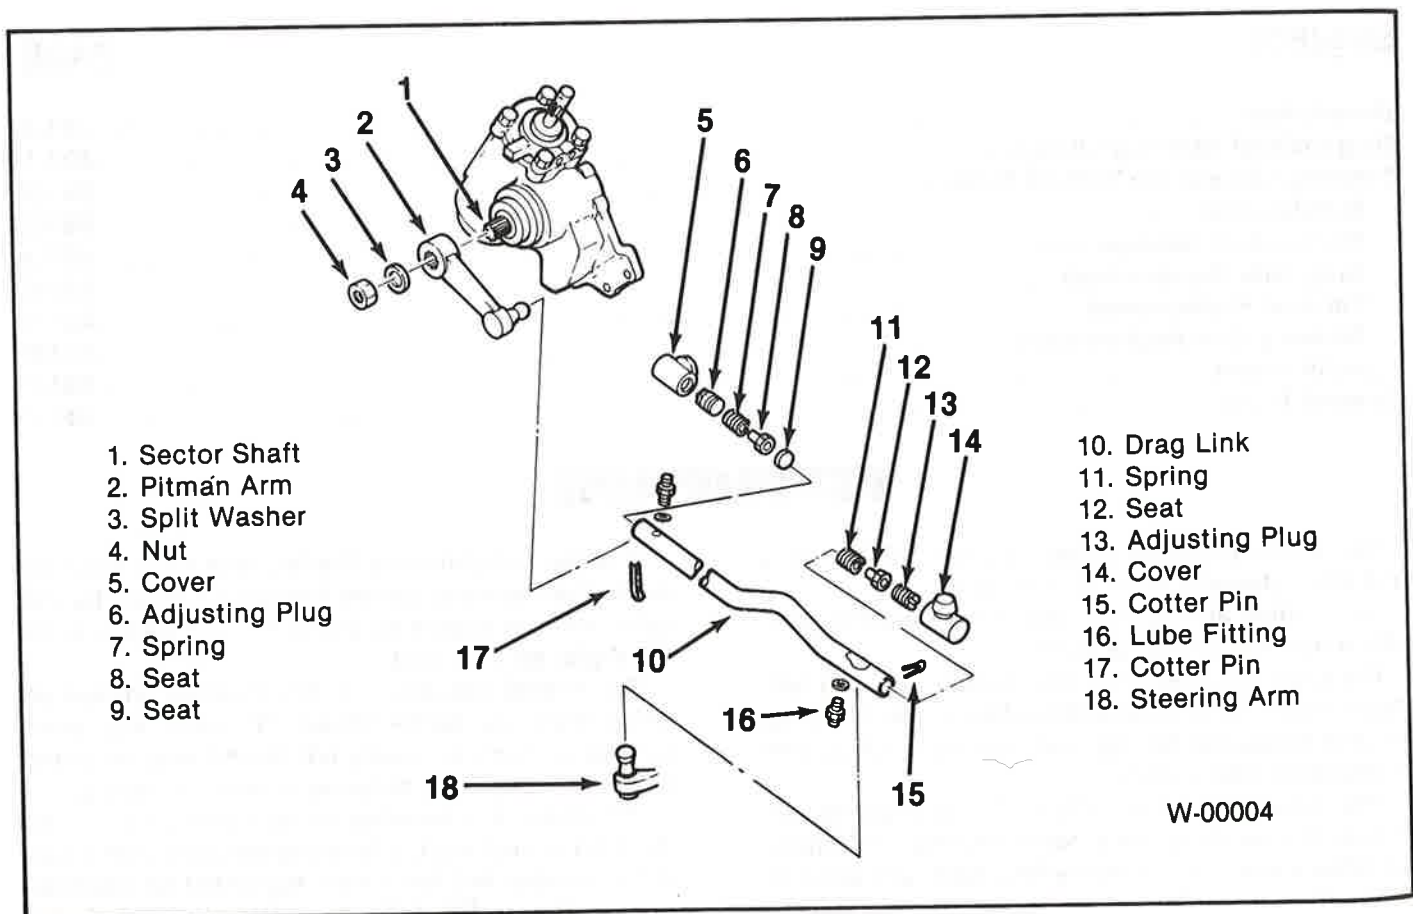

Figure 1. Drag Link and Related Parts
↔ Remove or Disconnect (Figures 1, 2 and 3)
Install or Connect (Figure 1)
Remove or Disconnect (Figure 1)
Inspect (Figure 1)
Measure (Figures 1, 4, and 5)
Measure (Figures 1 and 4)
- Ball stud (18) ball outside diameter (figure 1). Replace the ball studs if worn smaller than 26.5 mm (1.04 inches).